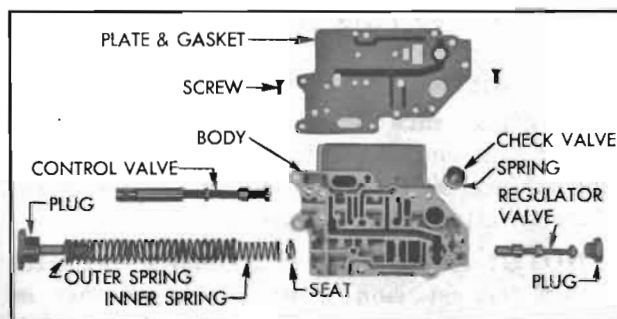

Figure 5-64—Valve Body Disassembled
3. Remove the large pressure regulator valve plug from valve body, using care because of the heavy spring pressure behind the plug. Remove the two springs and spring seat. See figure 5-64.
1. Place front pump delivery check valve spring in body with large end down and place check valve on spring with ridged side up. See figure 5-64.